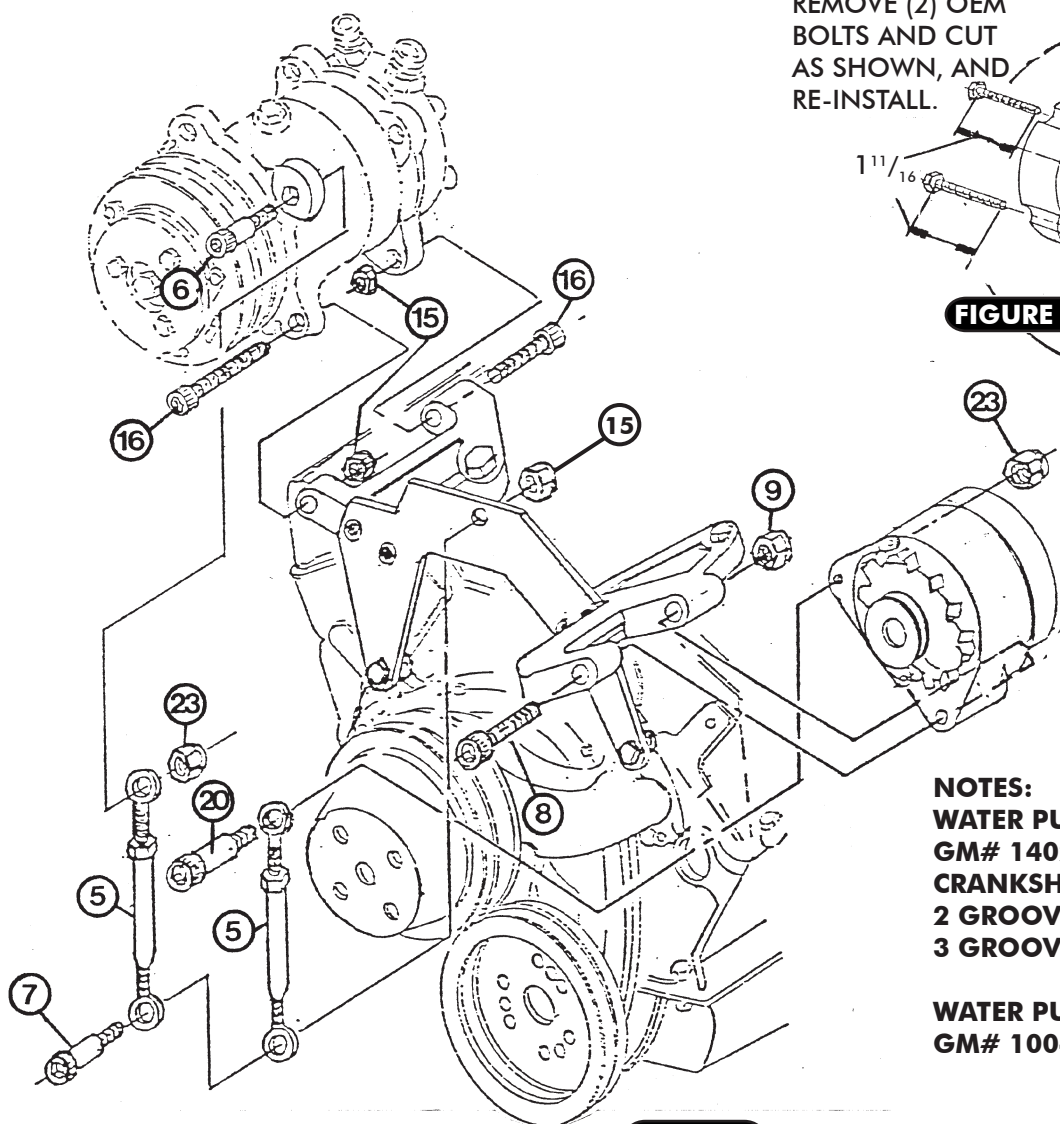

FIGURE 4
- ATTACH ADJUSTER PART #5 TO BRACKET WITH PARTS #8 AND #22 AS SHOWN IN FIGURE 4.